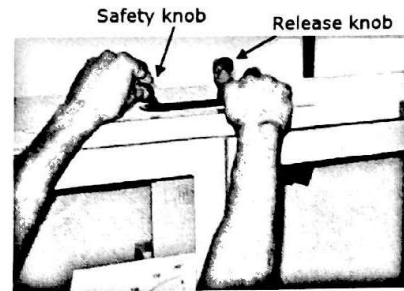

Fig.5.11: Starting the test.
5. Release the pendulum latching device by operating the two knobs in sequence (safety knob first and then the release knob) as shown in Fig.5.11.